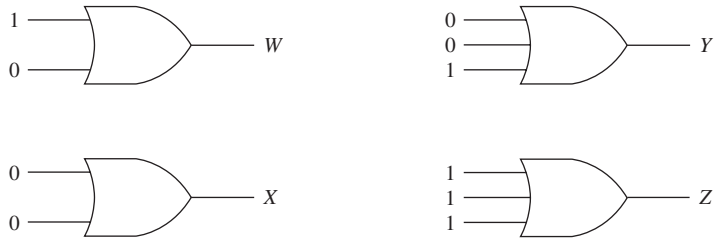

Figure P6
6. Determine the logic level at *W*, *X*, *Y* and *Z* in Figure P6.